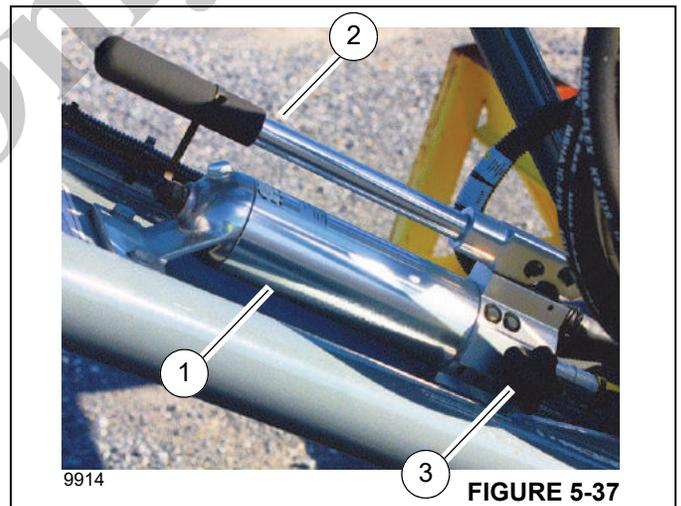

FIGURE 5-37
12. Remove pins (5, Figure 5-39) and retaining clips (6) from the stowage bracket. Secure the boom extension to the boom nose using four pins (5) inserted through the boom extension anchor fitting holes (1) and the boom nose attachment lug holes (2). Secure the pins (5) with retaining clips (6). Use the jack (1, Figure 5-37) as necessary to install the fourth pin as follows:
- b. Operate the jack handle (2, Figure 5-37) to align the holes on the boom extension with the hole in the boom nose.